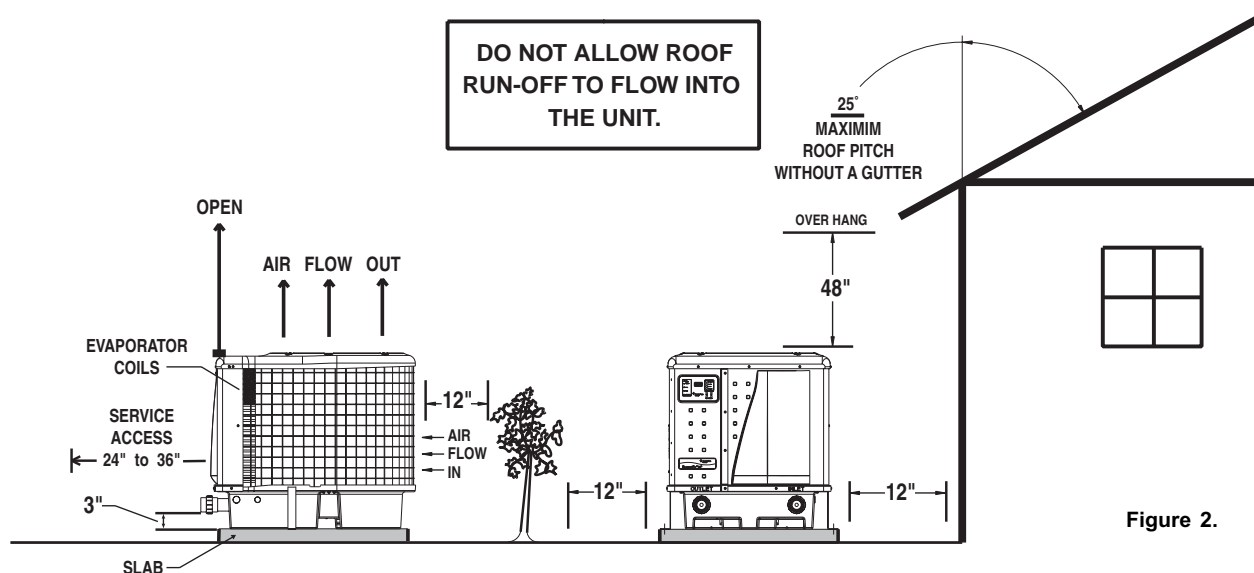

Figure 2.
1. At least 24 in. [61 cm] access must be available in the front and 12 in. [30 cm] on all the other sides of the heat pump for service, see Figure 2.
2. If the heat pump is to be installed under a cover or under a vertical overhang, the unit must have a minimum of four (4) feet [1.22 m] clearance from the top of the heat pump.
3. Install a minimum of five (5) feet [1.52 m] from the inside wall of the pool or spa unless the heat pump is separated from the pool or spa by a five (5) foot high solid fence or other permanent barrier. Canadian installations require a minimum of three (3) meters from pool water.
Make sure the heat pump is not located where large amounts of water may run-off from a roof into the unit. Sharp sloping roofs without gutters will allow massive amounts of rain water, mixed with debris from the roof to be forced through the unit, see Figure 2. A gutter or down spout may be needed to protect the heat pump.